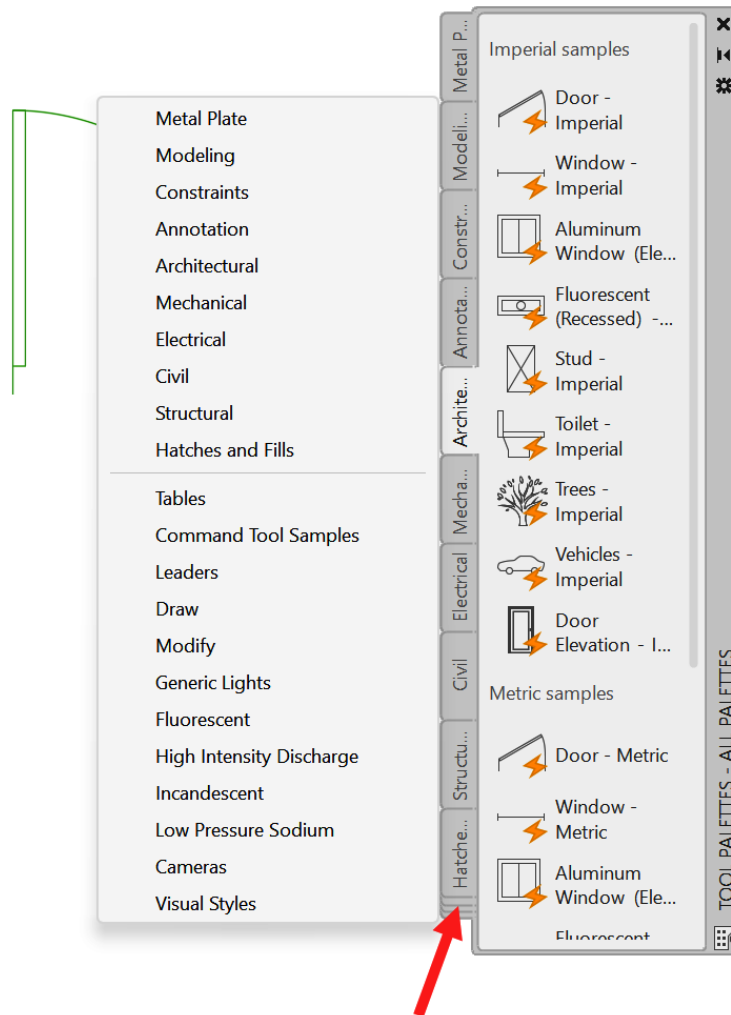

Figure 9.26: The Tool Palettes with tab list displayed
4. If you click where the tabs are all stacked up, you will get a list of all the available tool palettes, as shown in *Figure 9.26*. You can investigate all of these in your own time to get an idea of what comes pre-installed in AutoCAD.